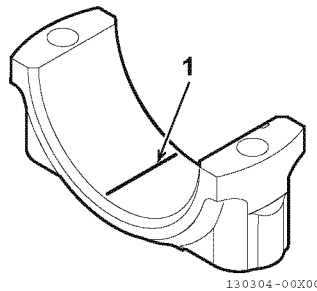

Fig.13-6
- 3 - Place PLASTIGAGE (1, Fig.13-6) along the full width of the bearing.